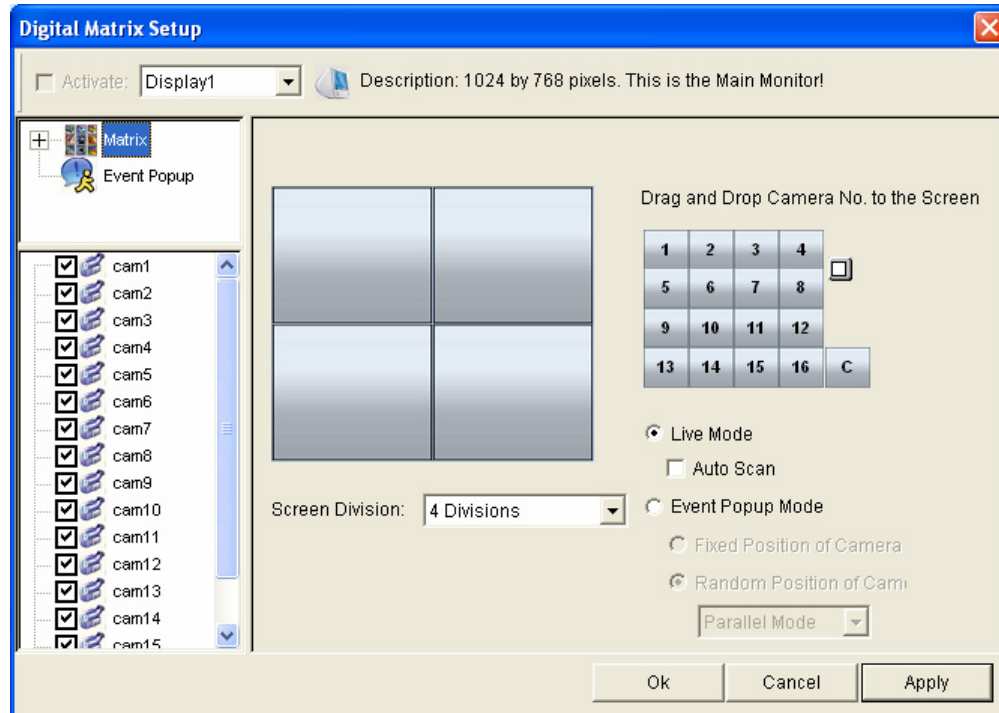

Figure 3-41
9. In the upper-left column, click the **Matrix** icon and return to Figure 3-41.